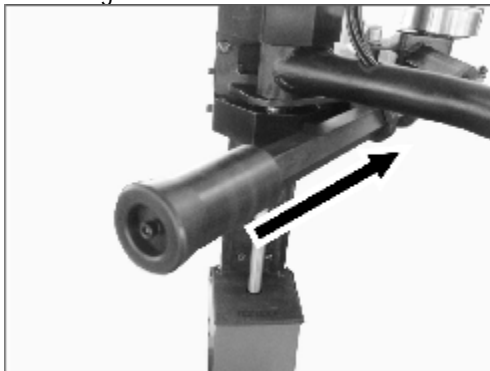

Fig.07
- I Take out Slide rod and relevant fastening parts, brush lubricant on the parts, then assemble them as in Fig.07.